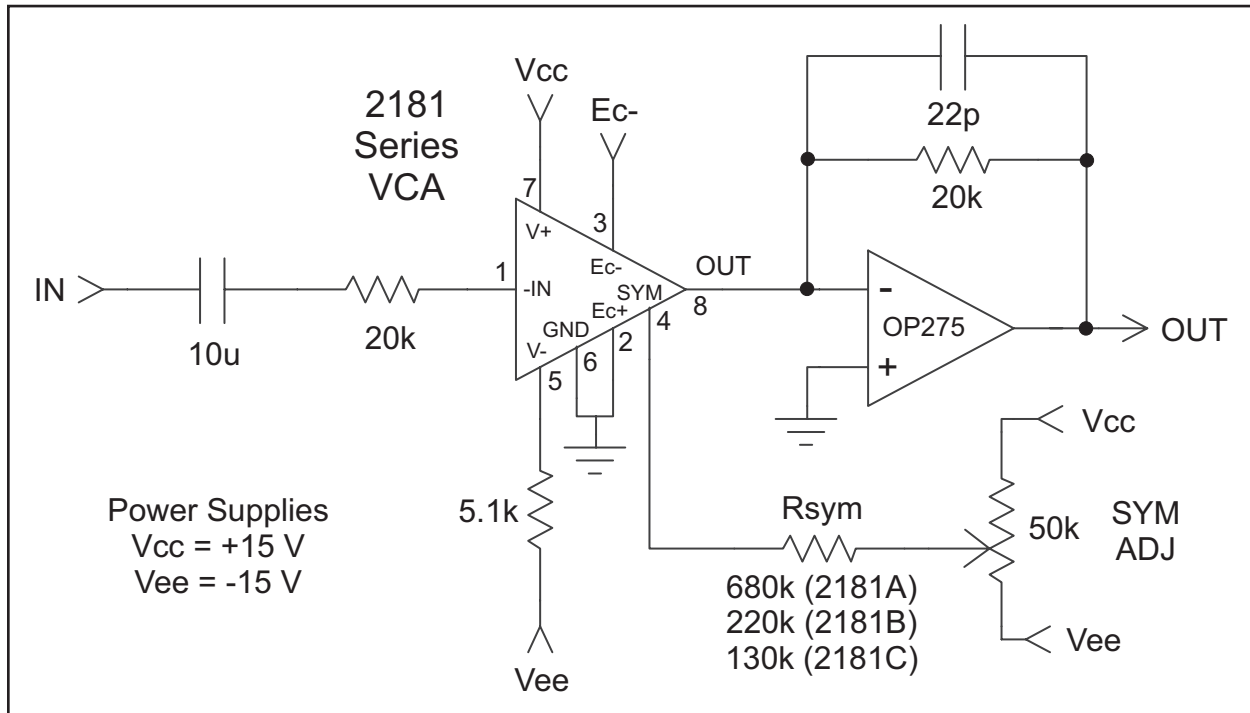
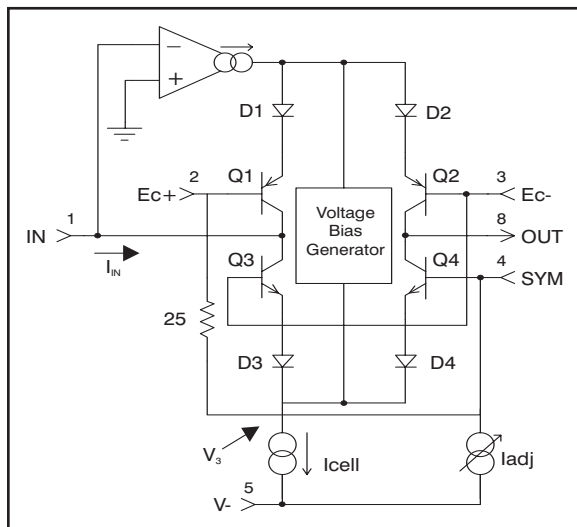
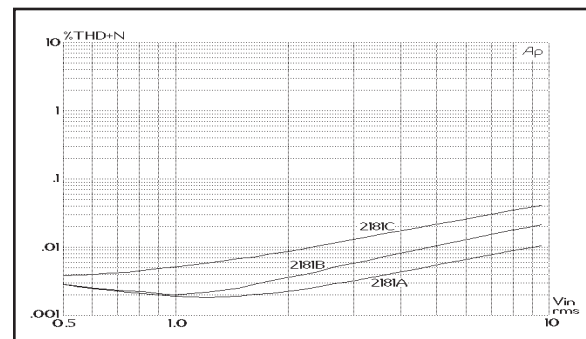

Figure 2. Typical Application Circuit
Figure 5. Simplified Internal Circuit Diagram
Figure 10. 1 kHz THD+Noise Vs. Input Level, 0 dB Gain
2. Unless otherwise noted, T_A = 25°C, V_C = +15V, V_{EE} = -15V. Test circuit is as shown in Figure 2. SYM ADJ is adjusted for minimum THD at 1 V, 1 kHz, E_{C-} = -E_{C+} = 0 V
Figure 5 presents a considerably simplified internal circuit diagram of the IC. The ac input signal current flows in pin 1, the input pin. An internal operational transconductance amplifier (OTA) works to maintain pin 1 at a virtual ground potential by driving the emitters of Q1 and (through the Voltage Bias Generator) Q3. Q3/D3 and Q1/D1 act to log the input current, producing a voltage, V₃, which represents the bipolar logarithm of the input current. (The voltage at the junction of D1 and D2 is the same as V₃, but shifted by four forward V_{be} drops.)
The 2181 current consumption is determined by the resistor between pin 5 (V-) and the negative supply voltage (V_{EE}). Typically, with 15V supplies, the resistor is 5.1 k Ω , which provides approximately 2.4 mA. This current is split into two paths: 570 μ A is used for biasing the IC, and the remainder becomes I_{cell} as shown in Figure 5. I_{cell} is further split in two parts: about 20 μ A biases the core transistors (Q1 through Q4), the rest is available for input and output signal current.
The 2181-Series VCAs are intended to be adjusted for minimum distortion by applying a small variable offset voltage to pin 4, the SYM pin. Note that there is a 25 Ω resistor internal to the 2181 between pin 4 and pin 2. As shown in Figure 2, Page 3, the usual method of applying this offset is to use the internal 25 Ω resistor along with a
The 2181-Series VCA design, fabrication and testing ensure extremely good audio performance when used as recommended. The 2181 maintains low distortion over a wide range of gain, cut and signal levels. Figures 10 through 12 show typical distortion performance for rep-
The Input pin (pin 1) is a virtual ground with negative feedback provided internally (see Figure 5, Page 4). The input resistor (shown as 20 k Ω in Figure 2, Page 3) should be scaled to convert the available ac input voltage to a current within the linear range of the device. Generally, peak input currents should be kept under 1 mA for best distortion performance.
Refer to Figures 10 through 12 to see how distortion varies with signal level for the three parts in the 2181 Series for 0 dB, +15 dB and -15 dB gain. The circuit of Figure 2, Page 3 was used to generate these curves.
A designer may trade off noise for distortion by decreasing the 20 k Ω current-to-voltage converting resistors used at the input and output in Figure 2, Page 3. For every dB these resistor values are de-
The Output pin (pin 8) is intended to be connected to a virtual ground node, so that current flowing in it may be converted to a voltage (see Figures 2 & 15). Choose the external opamp for good audio performance. The feedback resistor should be chosen based on the desired current-to-voltage conversion constant. Since the input resistor determines the voltage-to-current conversion at the input, the familiar ratio of R_f/R_i for an inverting opamp will determine the overall voltage gain when the 2181 is set for 0 dB current gain. Since the VCA performs best at settings near unity gain, use the input and feedback resistors to provide design-center gain or loss, if necessary.
The SYM pin (pin 4) is actually a sort of additional positive-sense control port. It is provided to allow V_{be} mismatches in the core transistors to be adjusted after packaging and installation in the circuit board. It should only be used for this purpose. Connect pin 4 only to a high-impedance source as shown in Figures 2 and 15.